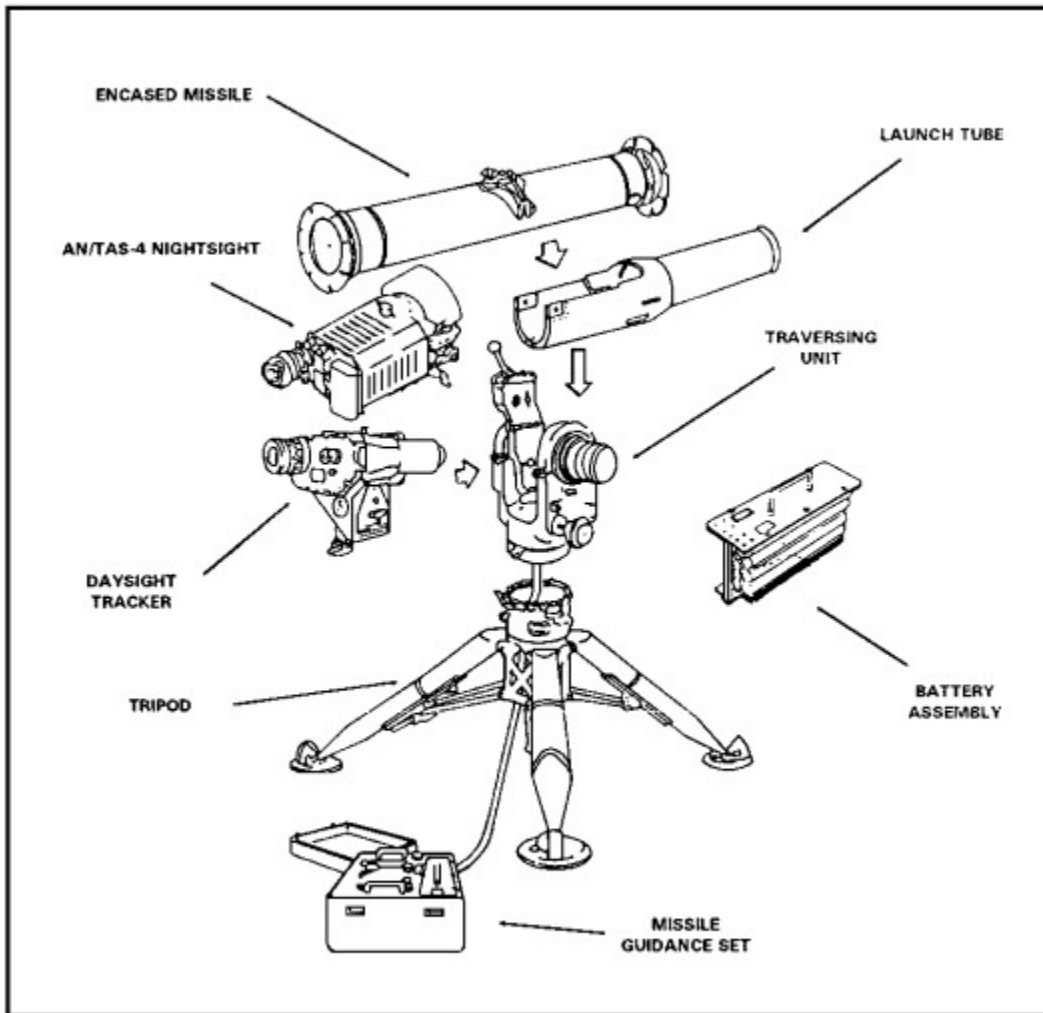

Figure 1-14. M220A1 TOW Components.
a. M220A1 (TOW) Weapon System. The M220A1 TOW consists of the following major components (shown in Figures 1-14 and 1-15):